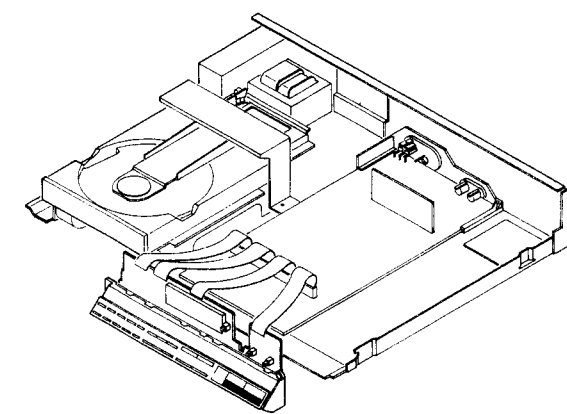

Fig. 27
5. Shift it as in Fig. 27 and check.